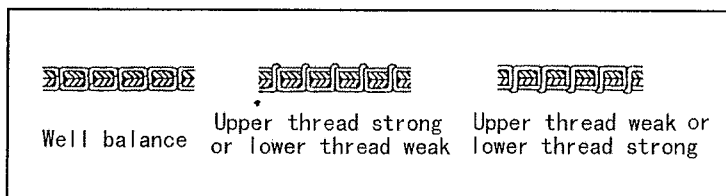

Fig.5
- (1) Removing: Open the shuttle race cap and the bobbin holder, then take out the bobbin.
- (2) Installation: Put the bobbin in the rotary hook case, Permit about 5 cm of bobbin thread to hang down freely. Install the bobbin in the bobbin case so that the thread wound direction is clockwise. Then close the rotary hook and the shuttle race cap.
9. ADJUSTING THE THREAD TENSION (Fig.5)